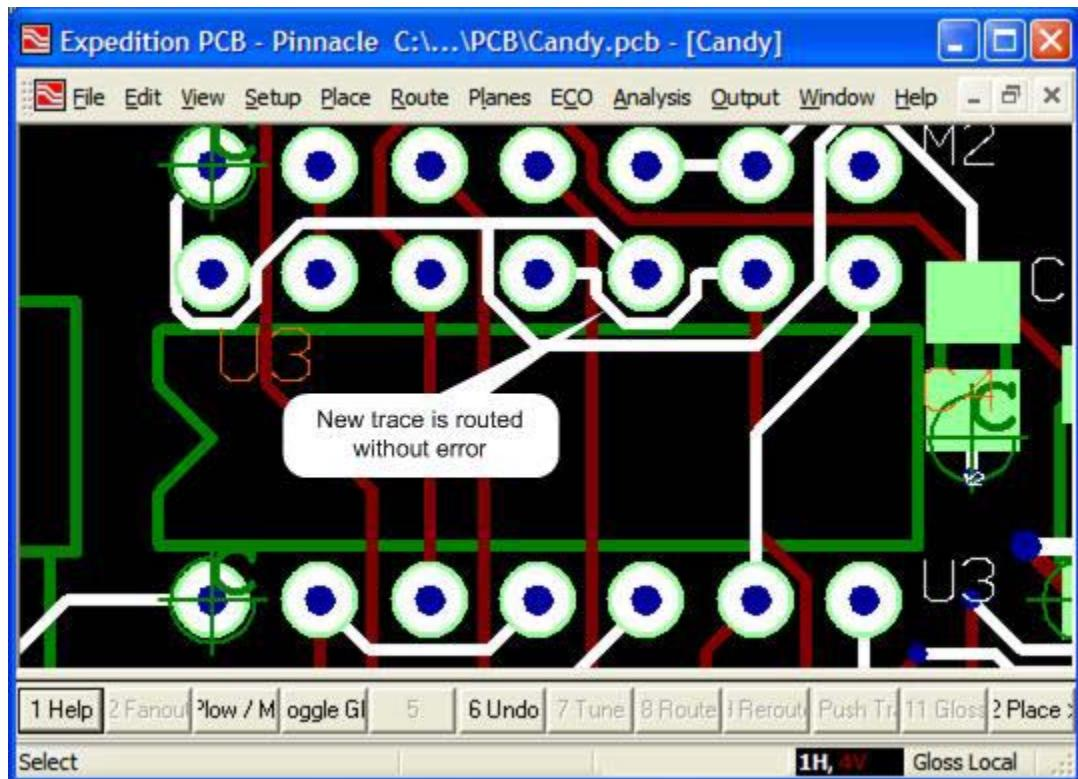

Figure 12-17. The PutTraceTransac.vbs script runs without error.
- 1) Drag the *PutTraceTransac.vbs* script from your C:\Temp folder, drop it on top of the design, and observe that our trace is now routed as illustrated in Figure 12-17.